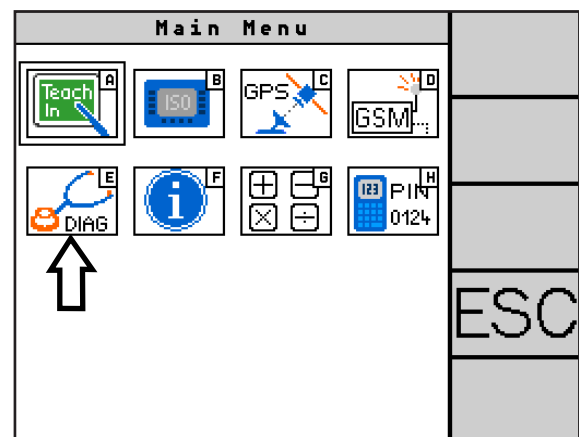

Fig. 114: Call up diagnostics menu
Select “DIAG” (E) from the main menu (see Fig. 114), to open the diagnostics.